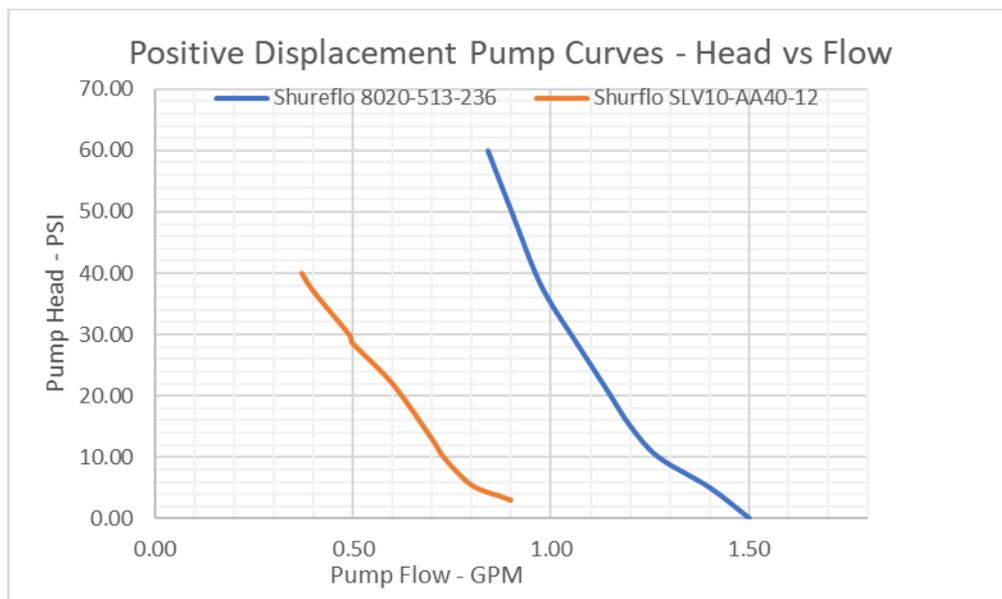

Figure 63 – Positive Displacement Pump Curves
- XIV.17.2 **Positive Displacement Pumps:** There are low flow, high head positive displacement diaphragm pumps well suited for UCM filtration systems, two readily available examples from SHURflo™ (Shurflo | Brands | Pentair) are listed below and the representative pump curves are shown **Figure 63**. Positive displacement pump flow rate generally varies very little with pump discharge head. Diaphragm pumps are preferred for fine filtration since they are available in compact, low flow, and high discharge pressure designs. Positive displacement pumps are also perfect for batch filtration since they can run dry and with good suction lift do not require priming providing easy installation and use. However, as previously stated, diaphragm pumps can develop pressures high enough to require over pressure protection and these are provided as a ‘demand switch’.